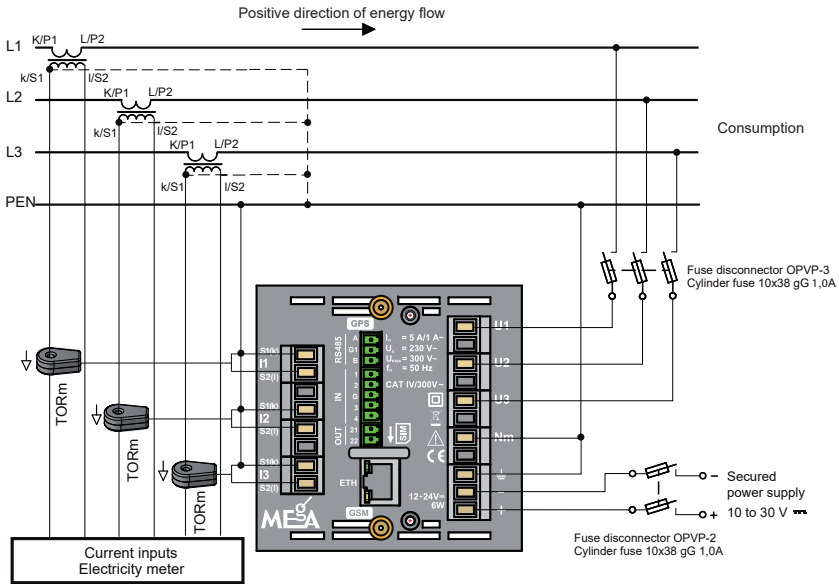

Fig. 26: Connection of two-stage inputs of MEG45PAN
The wiring of the four two-stage inputs **IN1** to **IN4** of the IN connector of the MEg45PAN monitor is shown in Figure 26. The internal supply voltage is  $24\ \text{V}_{\text{DC}}$ . Input signals IN1 to IN4 have a common contact that is galvanically connected to the common conductor **G** of the monitor circuits.
8. The galvanically free switching contacts of up to four external devices powered by the internal 24 V voltage of the MEG45PAN monitor in Figure 26 are to be connected to terminals **1** to **4** of the **IN** inputs. If the switching contacts are grounded by one pole, these poles must be connected to the common contact **G** of the five-pole **IN** input connector.